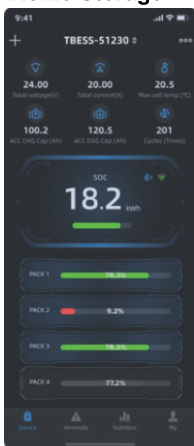

Figure 1
1) Figure 1: Display battery system information in sequence from top to bottom: